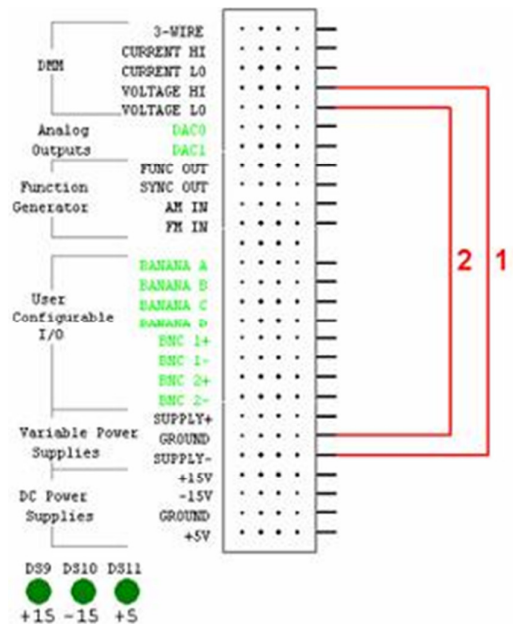

Figure 2
Construct the circuit as shown in **Figure 2** by performing the following steps:
- Complete the table below figure 2.